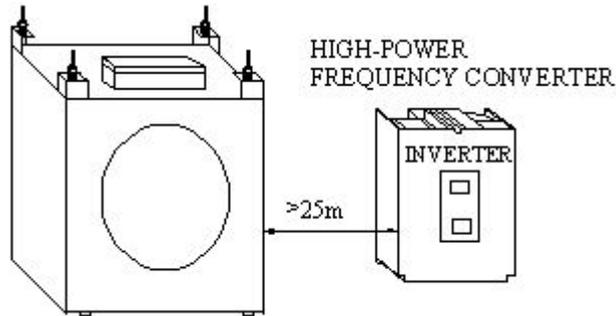

Figure 11.e
e. The location that the metal detector is installed is very sensitive to the electromagnetic interference. For example, in the workshop, there is air conditioner and a big power inverter is used (over 15KW) and it is within 25m, it may cause the misoperation. So please install RFI filter to the main connecting wire. The nearer the install position to the AC motor driver the better it is. And if you adjust the inverter's PWM wave carrying frequency, the interference would also relatively decrease. Please see figure 11.e.